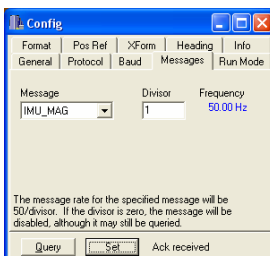

Figure 3. Messages tab
6. **Select the "Messages" tab (Figure 3).**
7. **From the Messages drop-down box Select "IMU_MAG" and Enter a one (1) into the "Divisor" field (Figure 3). This will enable the IMU_MAG message to be outputted by the unit at fifty hertz (50 Hz).**